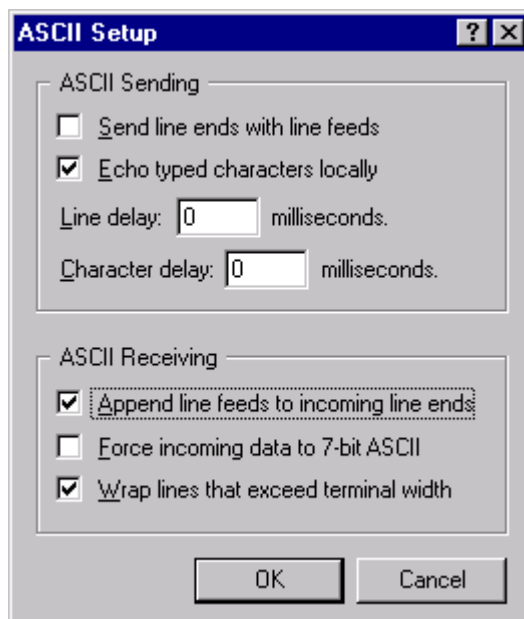

Figure 1-6
9. Press the ASCII Setup... button. A window for ASCII Setup will appear (Figure 1-6). You will need to check Echo typed characters locally and Append line feeds to incoming line ends as shown in Figure 1-6. Press the OK button.